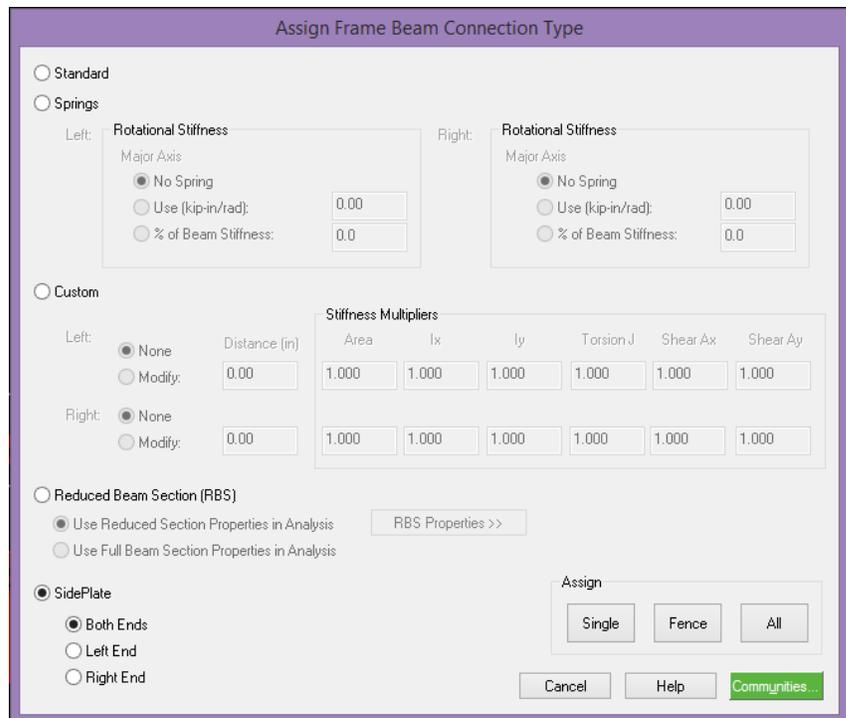

Figure 3 - assign frame beam connection type
STEP 2: ASSIGN SIDEPLATE FRAME BEAM CONNECTION TYPE (SEE FIG. 3)